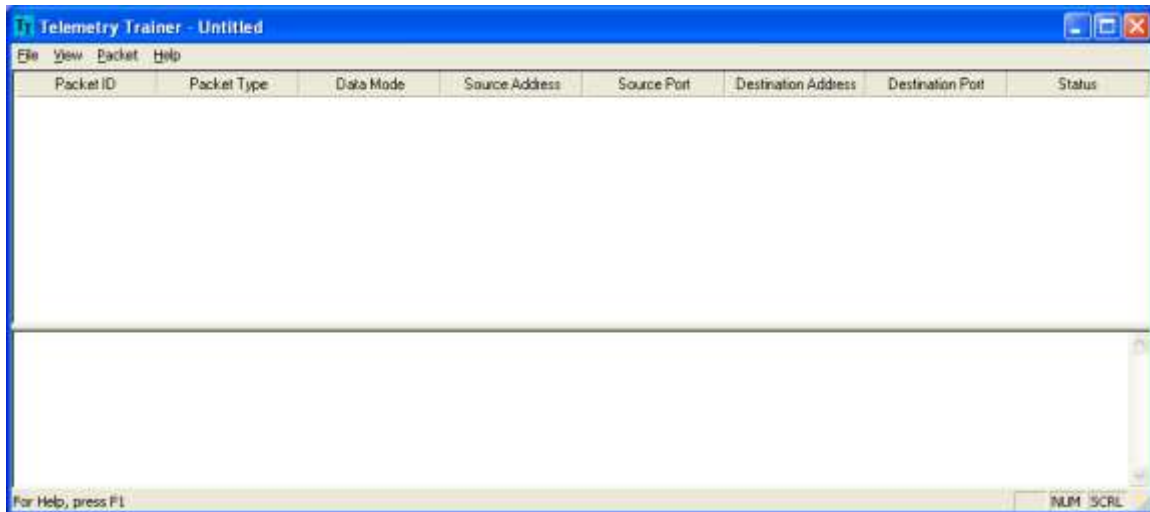

Figure 11 Telemetry Trainer Main Window
5. You can start the Telemetry Trainer application by using the Window's **Start** menu. From the **Start** menu select **Programs**, select **TReK**, and then select **Telemetry Trainer**. (Note: If you selected a Program Folder name other than **TReK** during installation, then that name will appear on the Start menu instead of TReK). The **Telemetry Trainer** main window as shown in Figure 11 will appear on your screen.